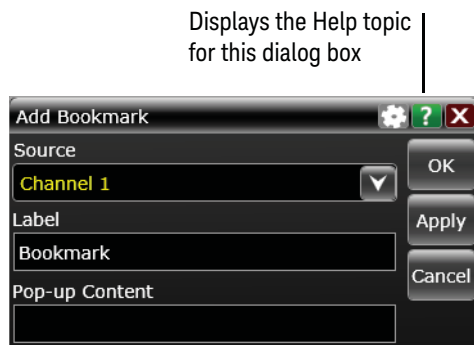

Figure 19 Help button for dialog box Help
- Click the question mark near the top right corner of a dialog box to open the help topic for that dialog box (Figure 19).